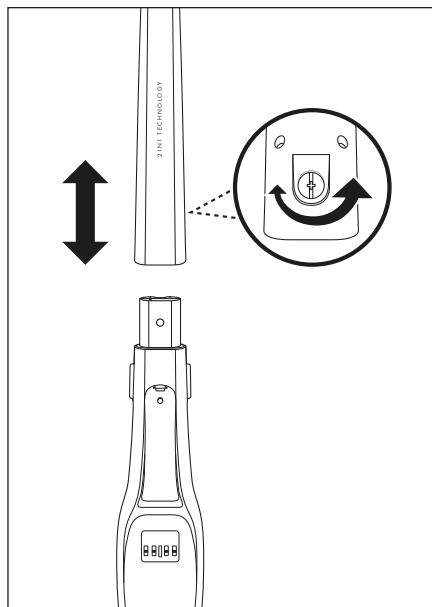

Fig. 1
- 1) Loosen the screw ⑪ at the back of the handle rod ⑩ with a screwdriver in anticlockwise direction. Pull the screw ⑪ out of the screw hole on the handle rod ⑩.
- 2) Attach the handle rod ⑩ to the handle rod bracket of the appliance. Push the handle rod ⑩ all the way onto the handle rod bracket until it is firmly seated on the appliance. (Fig. 1).
- 3) Insert the screw ⑪ into the screw hole at the back of the handle rod ⑩. Tighten the screw ⑪ clockwise with a screwdriver (Fig. 1).